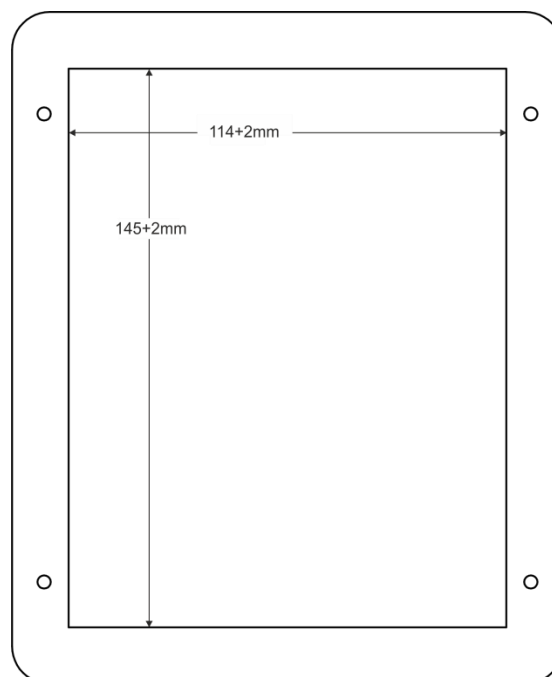

Figure 3: Cut out Dimensions (not to scale)
4. Following the **inside** edge of the template, cut a hole in the table surface with a sabre or keyhole saw according to the dimensions shown in Figure 3 (not to scale).